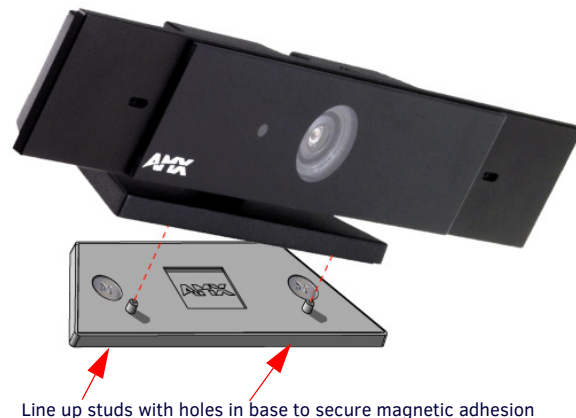

FIG. 5 CONNECTING SERENO TO THE MAGNETIC MOUNT ADAPTER
3. Line up the studs of the wall mount base with the holes in the camera metal plate. See FIG. 5